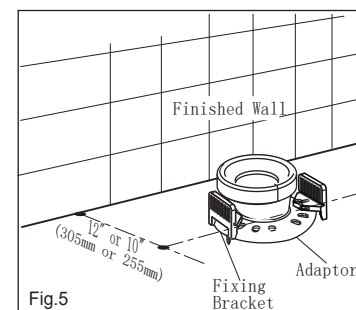

Fig.5
3. Place a fixing bracket onto each closet bolt and secure by hand tightening nuts and washers onto the closet bolts as detailed in Fig 5. Apply an additional turn for final installation.